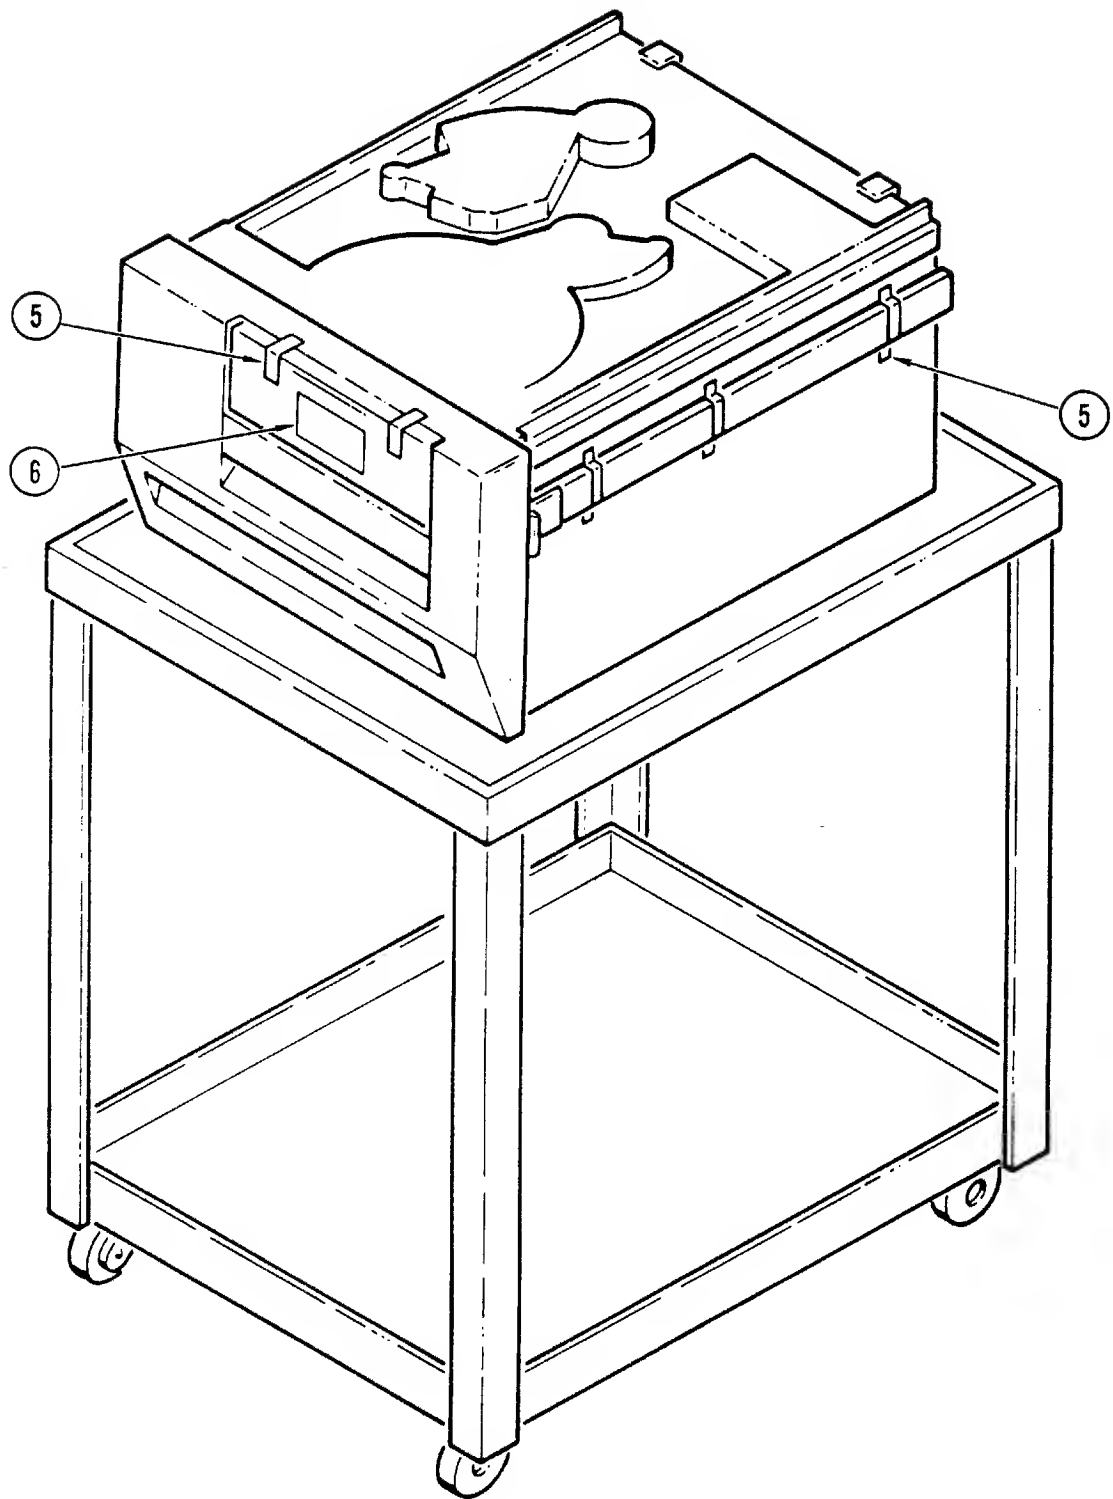

Figure 2.
14. Carefully lift the unit from the carton and put on the table. See Figure 2.
15. Remove slide and door tapes (5). If tie-wraps secure the slides to the chassis, remove the tie-wraps.
16. Remove door sticker (6).
17. Open the top cover (8) and secure it with the stay arm provided (9).